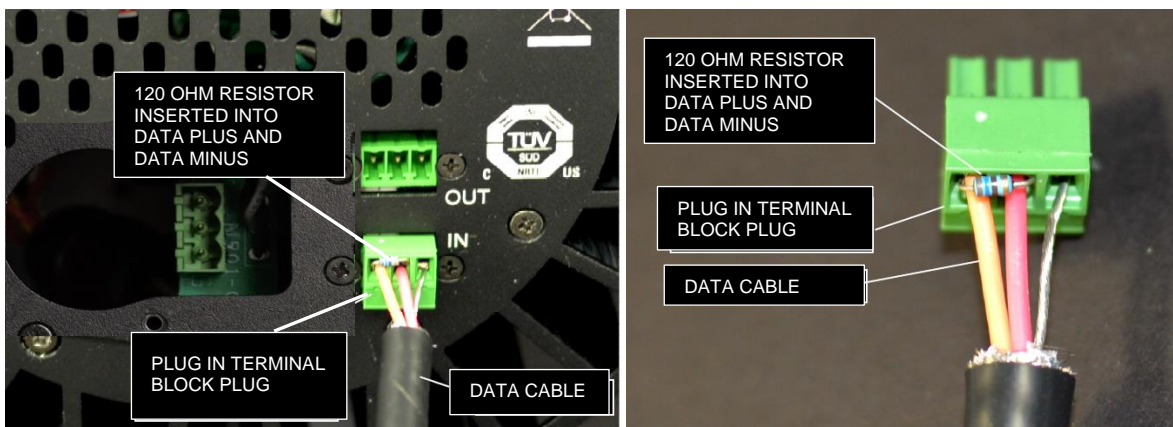

Figure 10: Input Data Cable Wiring to first Inspire Terminal Strip Fixture
7. The control cable connected to the first Inspire Terminal Strip fixture from each Data Output of the External Control Box **MUST** be terminated with a 120 Ω resistor (Figure 10). For details, see Inspire Terminal Strip DMX Cable Termination on the next section.
The data cable connection from each Data Output of the External Control Box to the first Inspire Terminal Strip fixture MUST be terminated with a 120 Ω resistor. Insert a 120 Ω resistor into the Terminal Block Plug (Data Plus and Data Minus) and then plug into the data IN header of the first Inspire Terminal Strip fixture. (Figure 10)